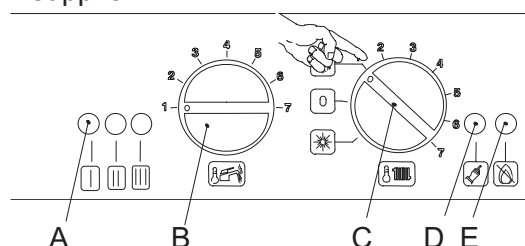

Figure 5.2
- 2 Turn on the electricity supply to the boiler, switching on the circuit breaker. The appliance operation light A (figure 5.2) will flash every 4 seconds (stand-by condition).
- 3 If the boiler is to be used for c.h. position the function selector B as in figure 5.2. The appliance operation light A will flash every 2 seconds (operating boiler).
- The appliance operation light A (figure 5.2) will flash every 4 seconds (stand-by mode).